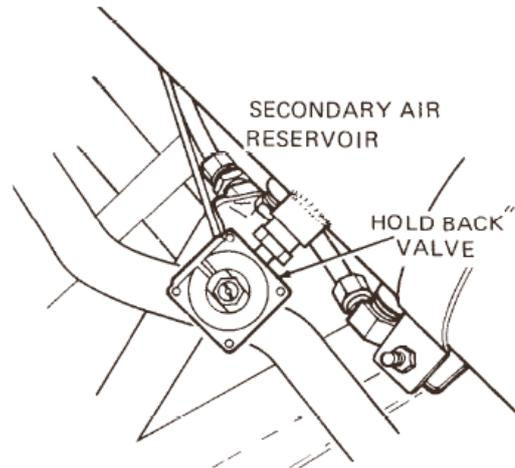

Figure 15 Hold Back Valve
- b. Disconnect the air line from the hold back valve then unscrew the valve assembly from the connector on the secondary air reservoir (Figure 15).